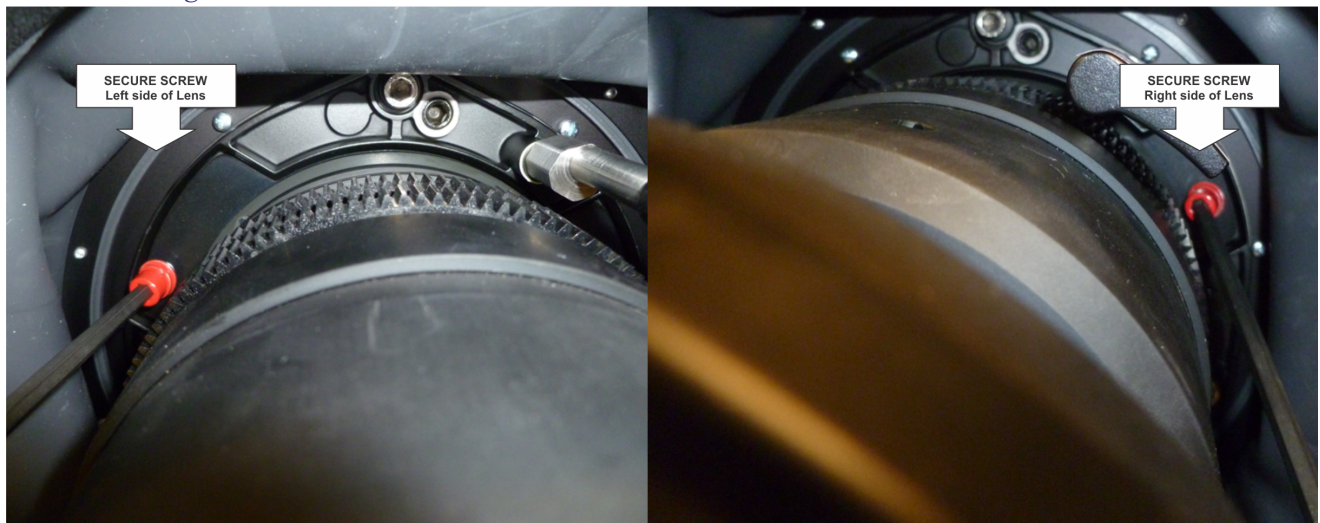

FIGURE 5-10
5. For added stability such as motion applications, fasten the security screws provided with the lens mount. See *Figure 5-10*.
6. Use a 5mm hex driver to fasten the red security screws provided with the lens mount (*Figure 5-10*).